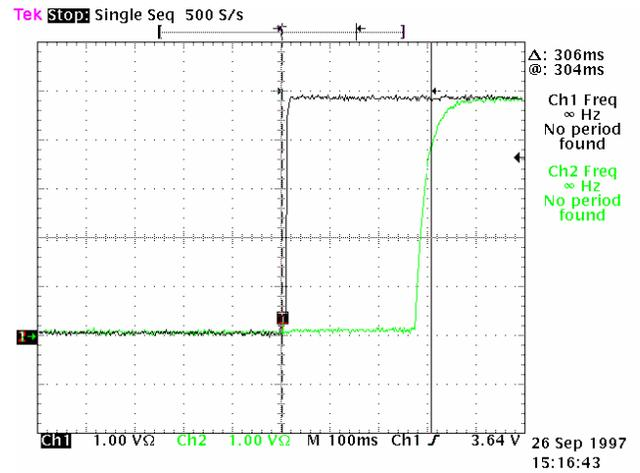
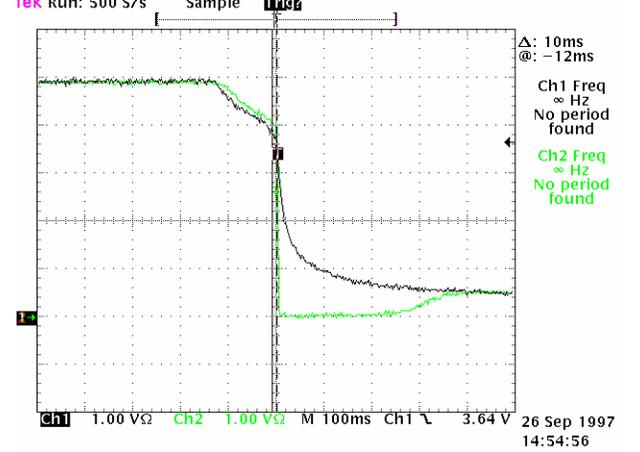

Fig.5 LM393 PWG delay time (org. , no delay)
Fig.9 LM393 PF Delay time( 0ms)
- Please refer to Fig.5 - Fig. 9 for scope timing.